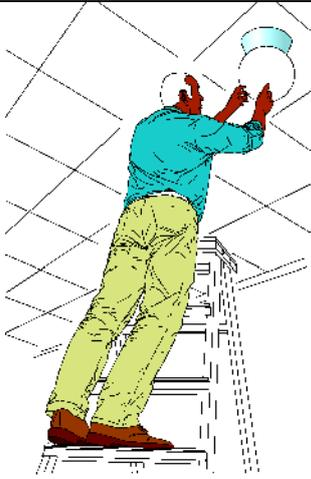

Fig 12
- don't use the top three steps of swing-back or double-sided stepladders, where a step forms the very top of the stepladder (see Figure 12);